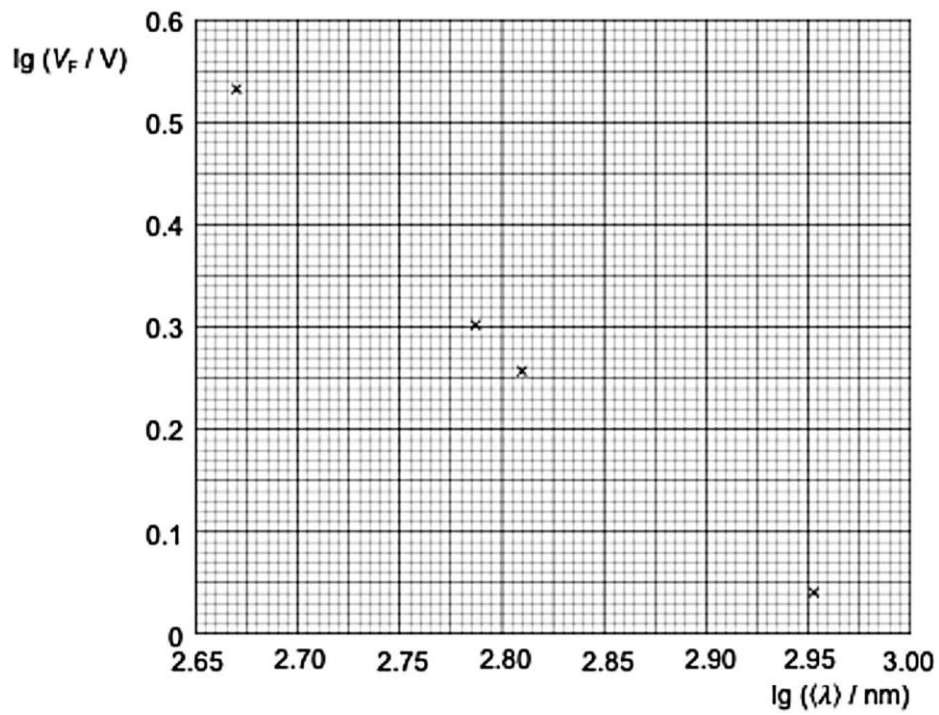

Fig. 8.5
The variation of $\lg (V_F / \text{V})$ with $\lg (\langle\lambda\rangle / \text{nm})$ is shown in Fig. 8.5.
- (i) Plot the point for GaAsP:N on Fig. 8.5. [1]
- (ii) Complete Fig. 8.5 by drawing the line of best fit. [1]